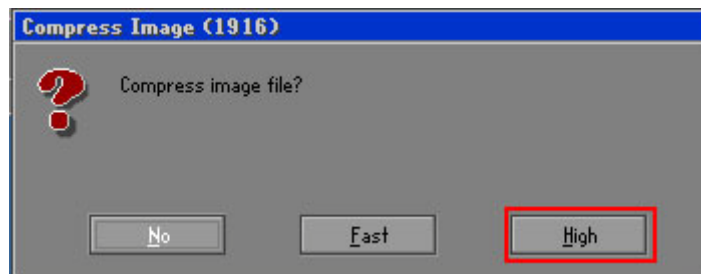

Figure C-17: Compress Image
Step 8: When the Compress Image screen in Figure C-17 prompts, click **High** to make the image file smaller.